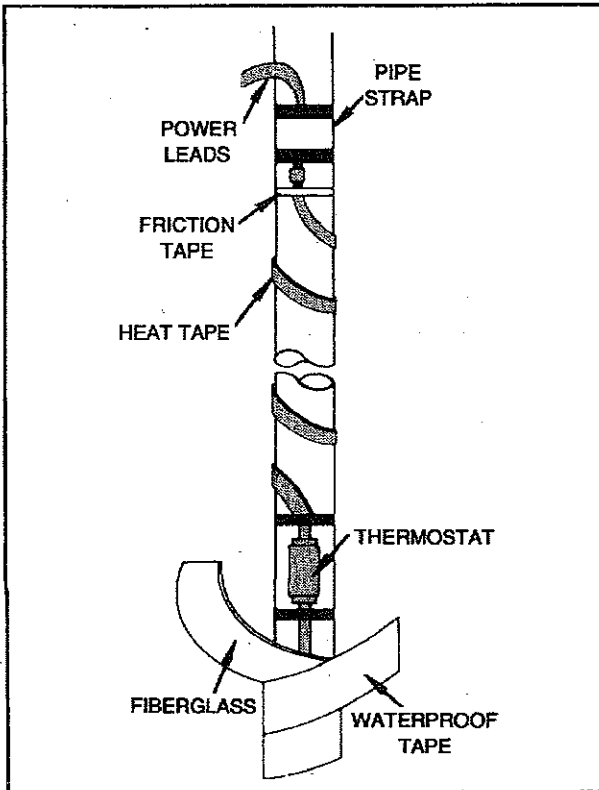

FIGURE 16 - Heat Tape Installation (Spiralled)
4. Wrap the pipe with weatherproof tape. On vertical pipe runs, start the wrap at the bottom and work up, as shown in Figure 16. Overlap the tape to shed moisture. If additional protection is required, insulate the pipe with fiberglass wrap before installing the outer wrap.